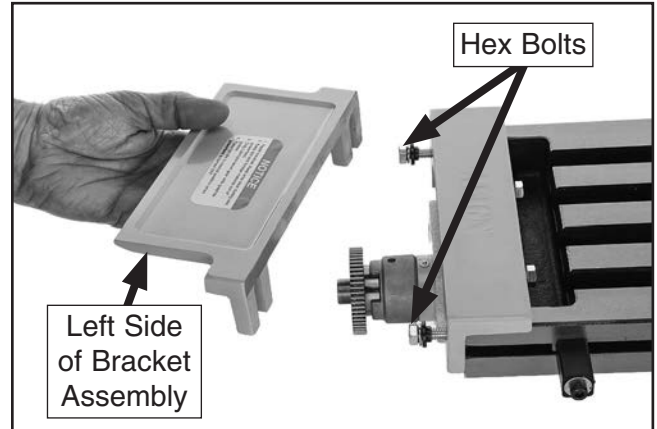

Figure 22. Left side of X-axis power feed bracket assembly removed.
8. Loosen hex bolts shown in **Figure 22**, then remove left side of X-axis power feed bracket assembly.